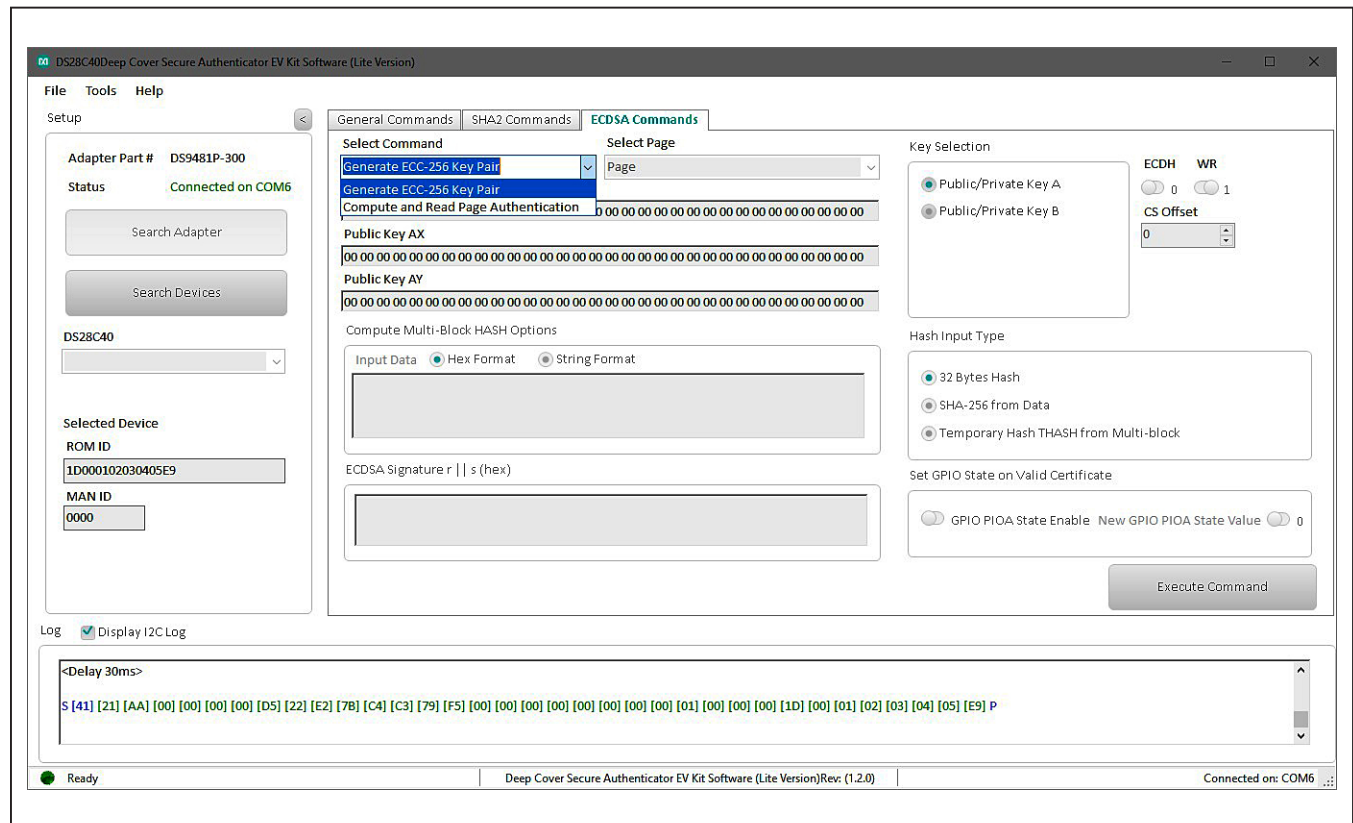

Figure 24. Generate ECC Key pair
- 1) Select the **ECDSA Commands** tab (Figure 24).
- 2) From the **Select Command** drop-down menu, select the **Generate ECC-256 Key Pair** and select the desired **Public/Private Key** from the **Key Selection** combo box (Figure 24).